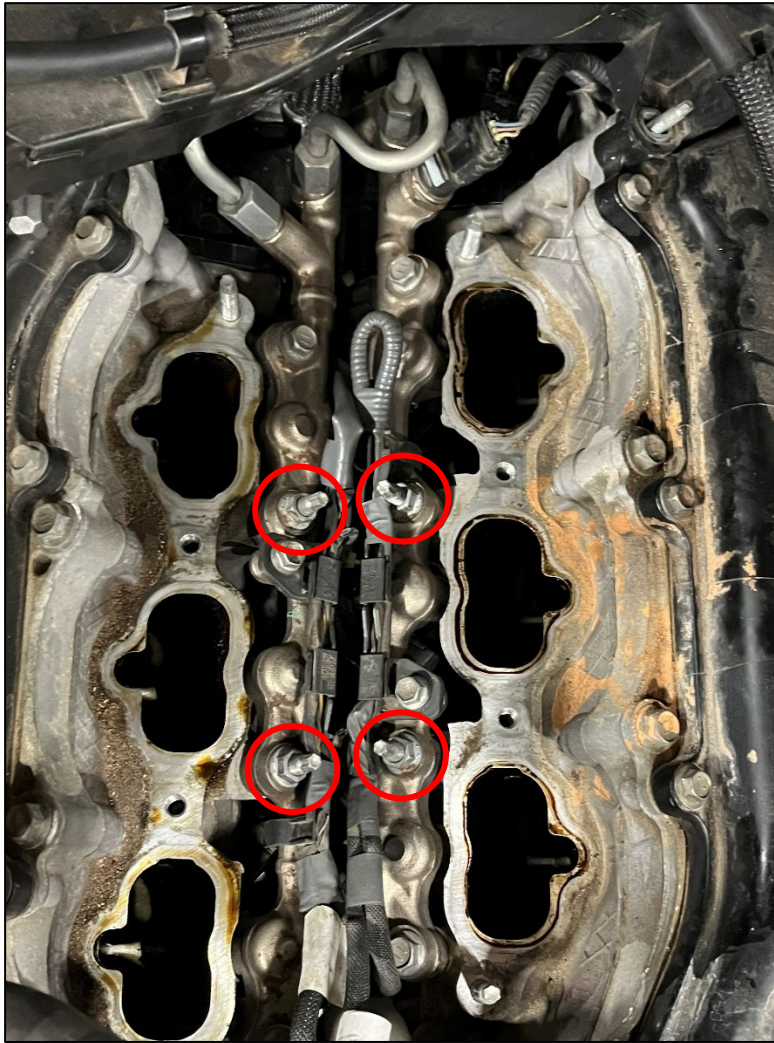

Figure 12
22. Disconnect the (6) six connectors from the lower Fuel Injectors.
23. Remove the (4) four nuts securing the Fuel Rails to the Engine. *Figure 12.*